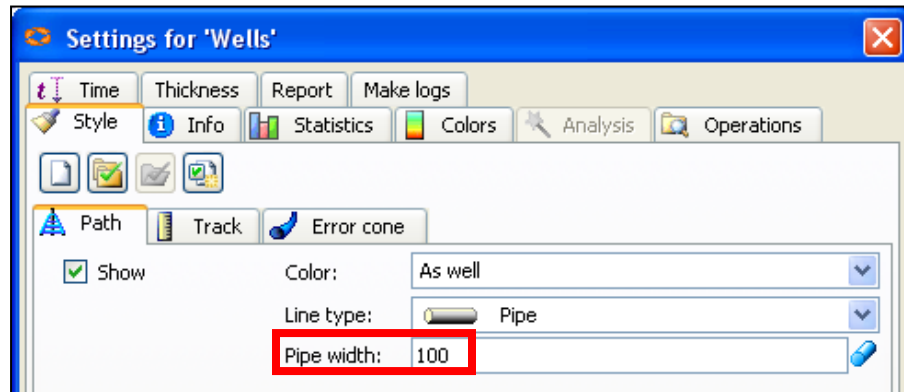

Fig. 4.5: The Settings for 'Wells' form on **Path** tab
2. The **Settings for Wells** form appears as shown in Fig.4.5. Make sure that the **Style** tab is active.